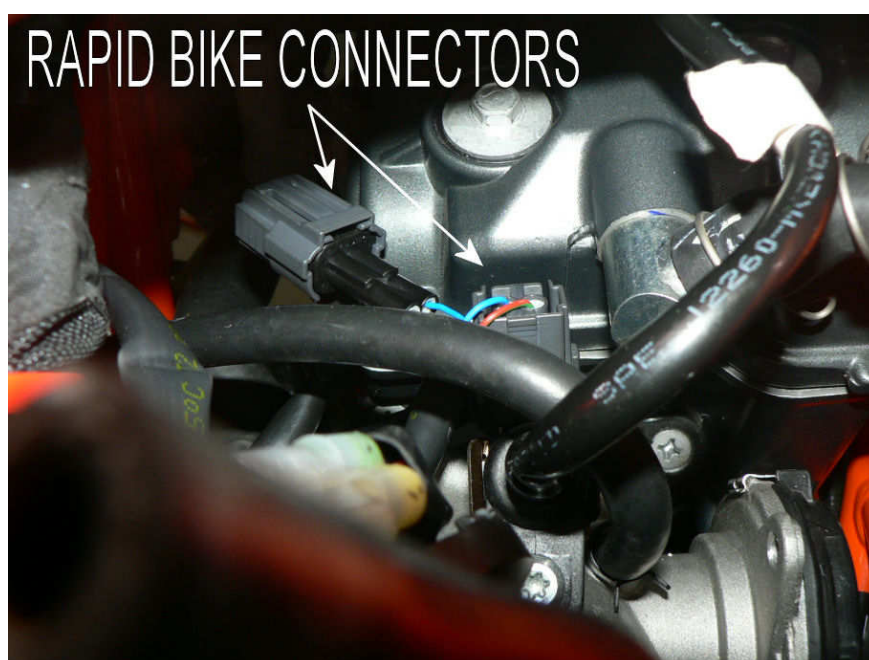

Fig.2
4. Connect the Rapid Bike connectors in-line of the stock connectors (**Fig.2**).